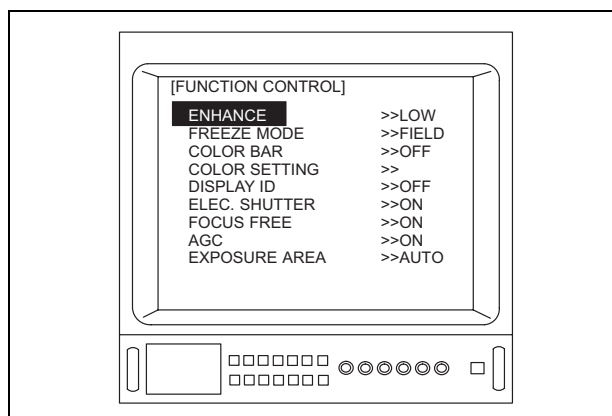

Figure 5.41
5. Depress the menu switch “↵” or the “Enter” key on the keyboard to adjust the image enhancement level (see Figure 5.41).